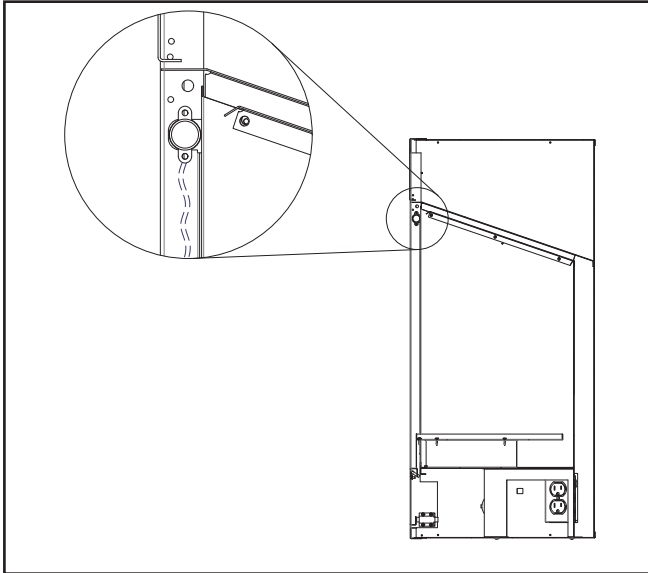

Figure 16
1. Install the thermal sensor by inserting the wires into the hole at the top of the right-side face. The wires should drop down the channel inside the face to the floor of the unit. See Figure 16.